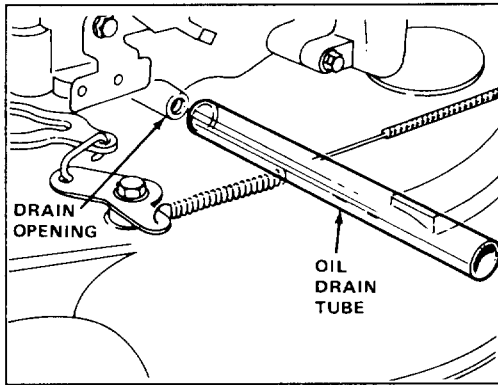

Figure 18
3. Raise left side of mower at least 12 inches (Fig. 18). Remove drain plug using a 14mm or 9/16" wrench. Place a drain pan at left side of mower.